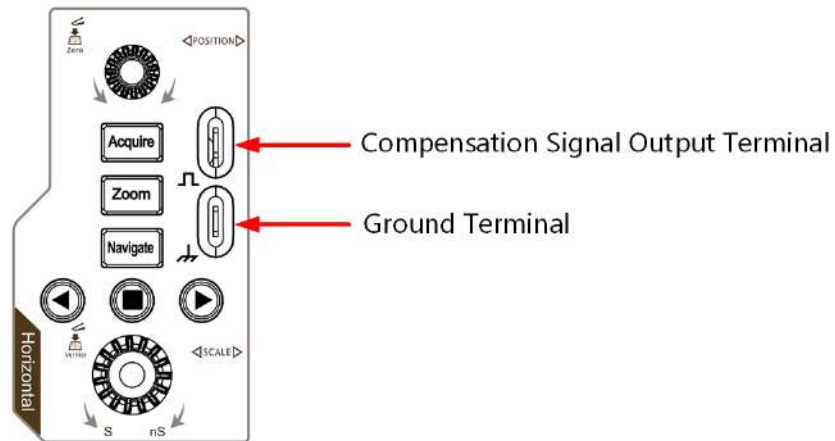

Figure 4.13 Use the Compensation Signal
2. Connect the ground alligator clip of the probe to the "Ground Terminal" as shown in *Figure 4.13*.
3. Use the probe to connect the input terminal of CH1 and the "Compensation Signal Output Terminal" of the probe, as shown in *Figure 4.13*.